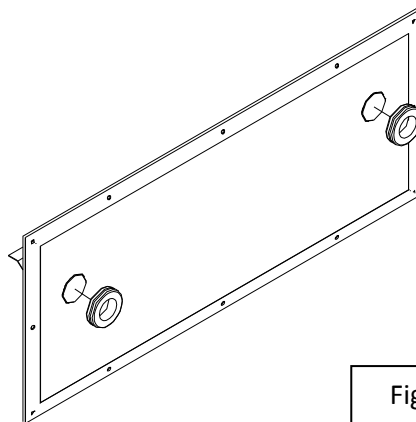

Figure 6
Step 4: Remove the knock-outs from the right side panel and install the grommets in the holes as shown on figure 6.